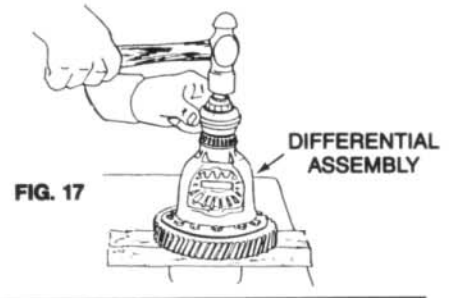

FIG. 17
1. New bearing cones are driven into position by using the **CUP AND CONE DRIVER PLUG**, and the **DEAD BLOW DRIVER PLUG** as illustrated. (Fig. 17)